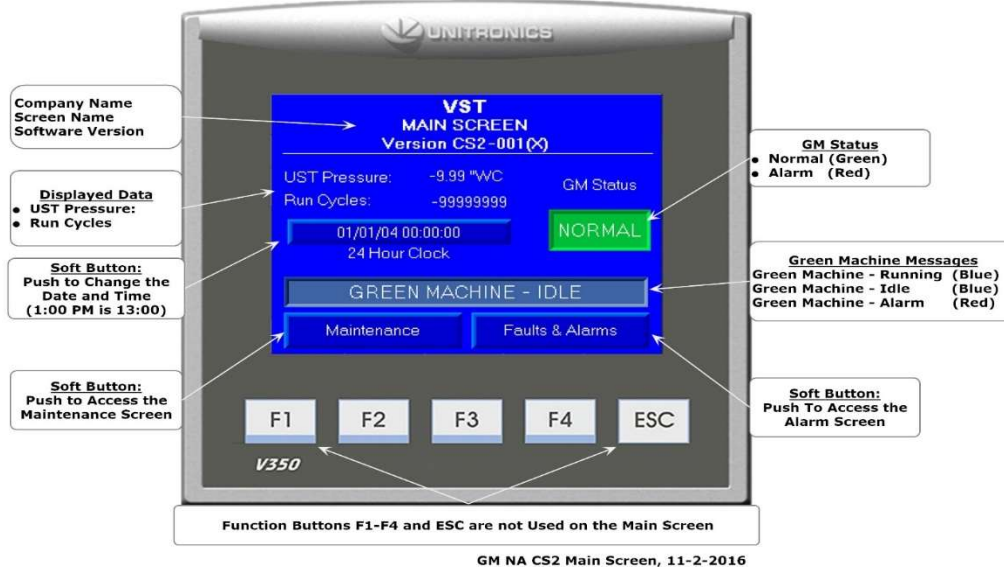

Figure 6-12: Main Screen
1. From the Main Screen, push the Date and Time soft button. This will bring up the Date and Time Interface Screen. **See Figure 6-12.**